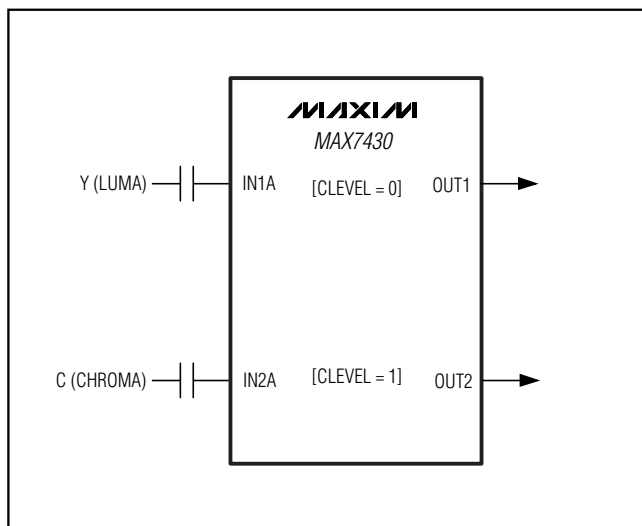

Figure 10. MAX7430 Y/C Video Filter Application
The MAX7430 is ideally suited for processing S-Video (Y/C) signals (Figure 10). Ensure that IN1_ filters the signal that contains the sync information (Y) since the clamping on IN2_ is internally controlled by the master channel (IN1_) sync. Set the clamp level for IN1_ to +1V (CLEVEL1 = 0) and set the clamp level for IN2_ to +1.5V (CLEVEL2 = 1).